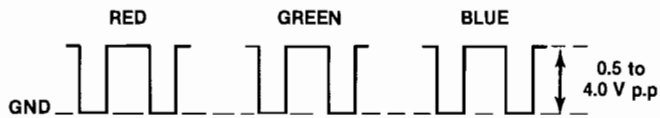
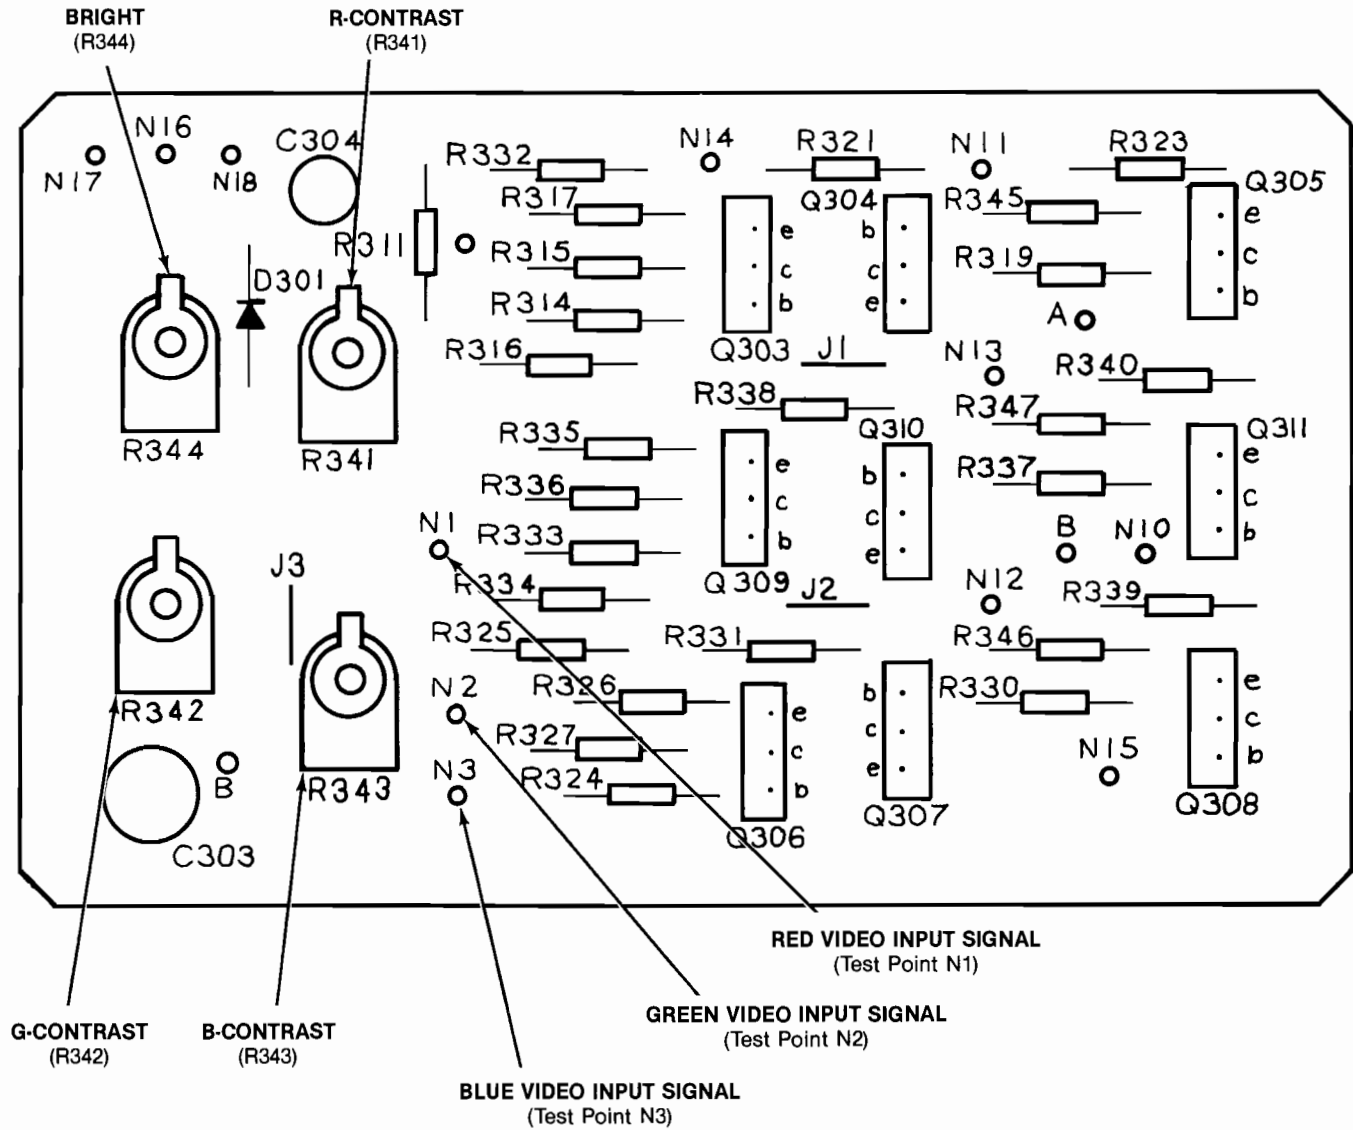

Figure 2 RGB Video Input Signals
Figure 4 Adjustable Controls and Test Points on Video Amplifier PCB
The red, green, and blue input signals are at test points N1, N2, and N3 of the Video Amplifier PCB. Waveshape and polarity are as shown in Figure 2.
BRIGHT control, R344, should be adjusted if the picture image is either too bright or too dark. Figure 4 shows the location of the BRIGHT control on the Video Amplifier printed-circuit board (PCB).
2. Using the BRIGHT control shown in Figure 4, adjust the display for a pleasing level of brightness.
The red, green, and blue signals can be checked at points N1 (red), N2 (green), and N3 (blue). These test points are located on the Video Amplifier printed-circuit board (PCB) as shown in Figure 4 of this manual. The red, green, and blue input signals are illustrated in Figure 2.